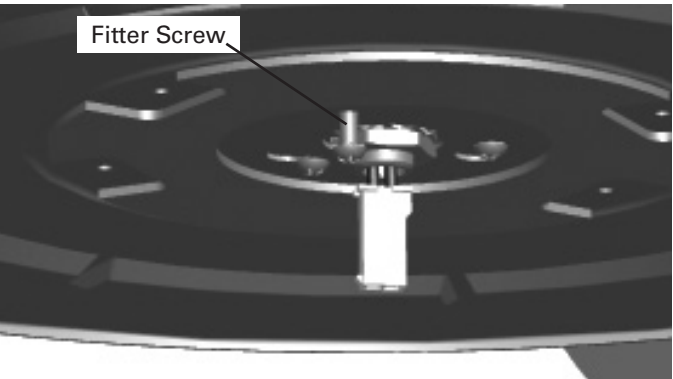

FIGURE 3.
Step 4. Install the remaining screw into the Glass Fitter. Figure 3.